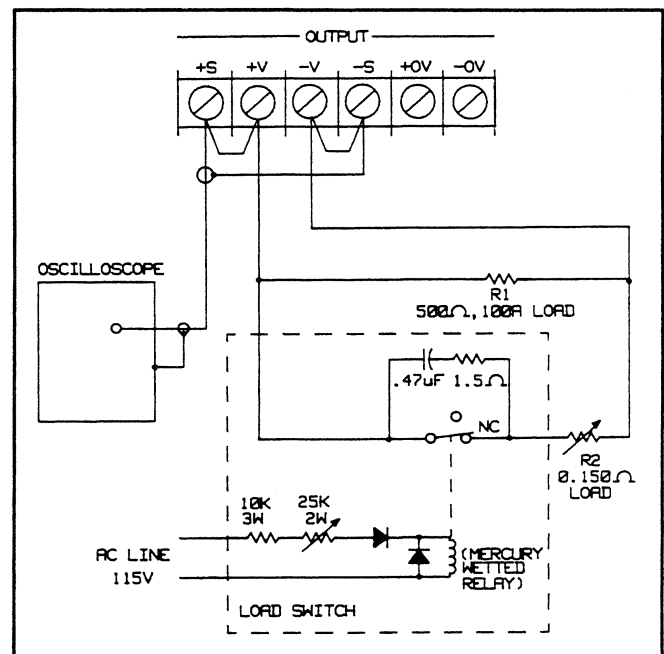

Figure 3-4. Transient Recovery Time Test Setup
- a. Turn off the supply and connect the output to be tested as shown in Figure 3-4.